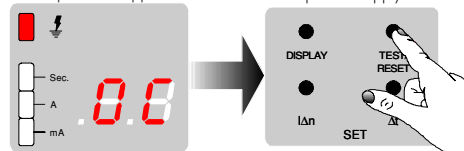

Fig. 3
- The display shows the following characters as in Fig.3